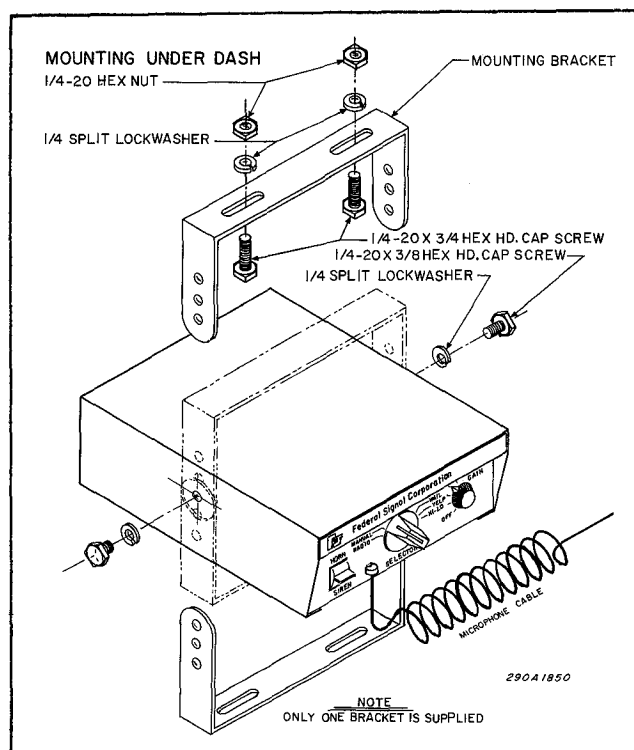

Figure 3-1. Installation of PA300 Under Dash.
The unit should be mounted in a position that is both comfortable and convenient to the operator. Keep visibility and accessibility of controls in mind. To install the unit under the dash, determine the mounting location and proceed as follows (see figure 3-1).
C. Secure the mounting bracket to the dash with (2 each)  $\frac{1}{4}$ -20 x  $\frac{3}{4}$  hex head screws,  $\frac{1}{4}$  split lockwashers and  $\frac{1}{4}$ -20 hex nuts as shown in figure 3-1.